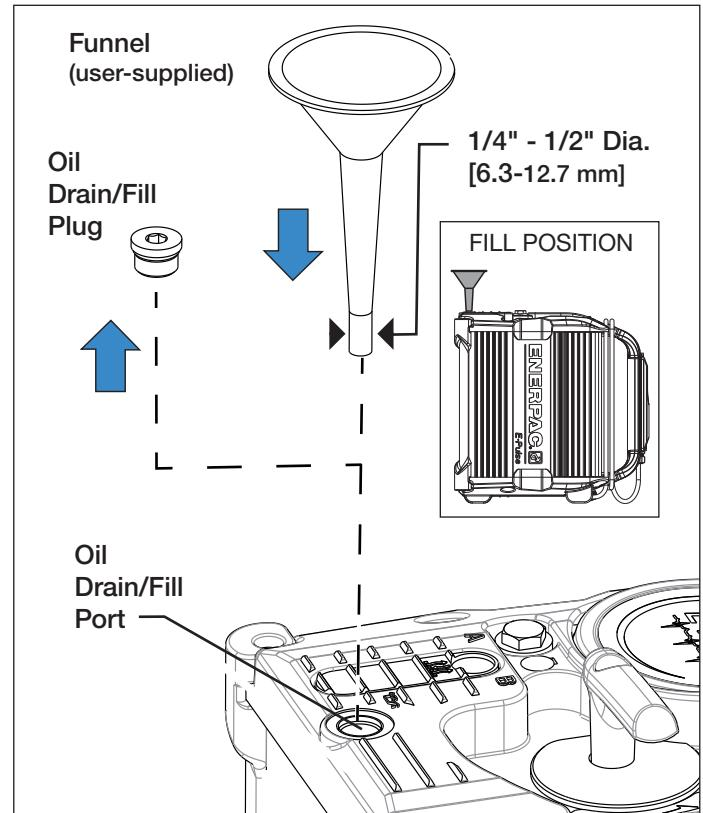

Figure 13, Adding Oil
6. Place the pump on a stable and level work surface, with the front cover facing UP, and the rear cover supported by the work surface. See Figure 13.
- Always use a funnel when adding oil. To avoid spillage and to ensure that pump internal venting functions properly during filling, funnel neck outer diameter must not exceed $\frac{1}{2}$ inch [12 mm] or be less than $\frac{1}{4}$ " [6.3 mm]. Refer to Figure 13.